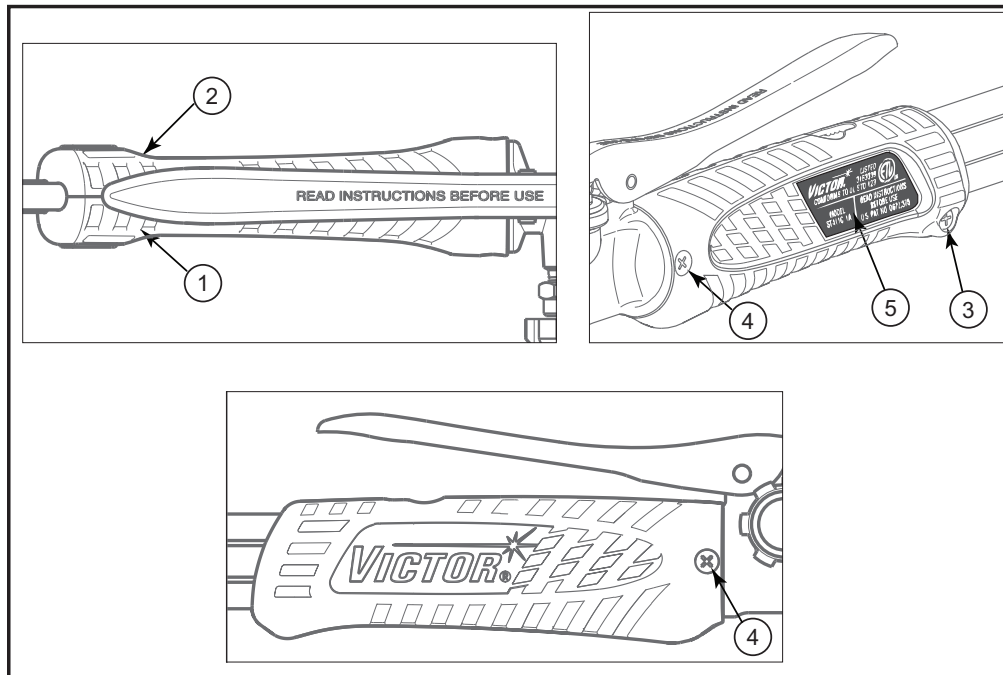

Figure 3-1
2. Align the screw hole in each handle with the holes in the torch and install both short, self-threading screws (see Figure 3-1).
4. Place the decal on the right handle as shown in Figure 3-1.